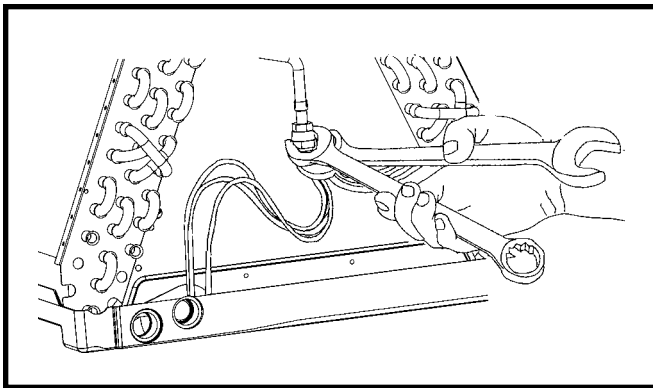

Figure 6. Loosening of Nut & Distributor Body
5. Using two wrenches, loosen the nut and distributor body as shown in Figure 6 (page 9). Turn the assembly nut counter-clock-wise until the orifice body halves are separated.